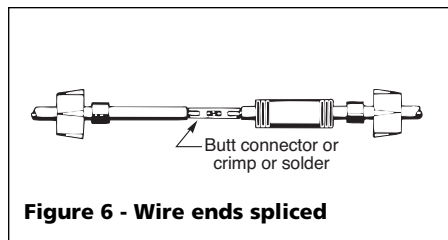

Figure 6 - Wire ends spliced
6. Insert wire end into butt connector and crimp. Match wire colors between power supply and motor (see Figure 6).